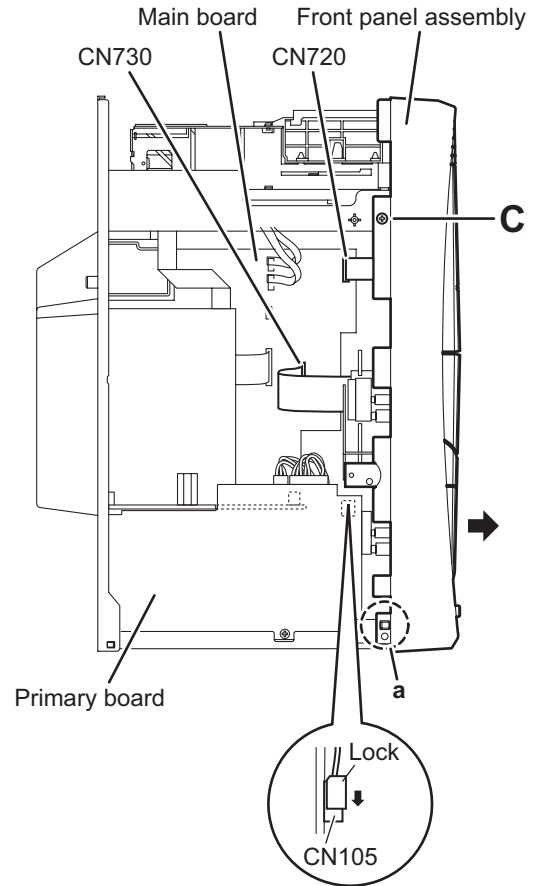

Fig.4
- (2) From the left side of main body, disconnect the card wires from the connectors (CN720, CN730) on the forward side of the main board. (See Fig.4)
- (3) Disconnect the parallel wire while releasing the lock of the connector CN105 on the primary board in the direction of the arrow. (See Fig.4)